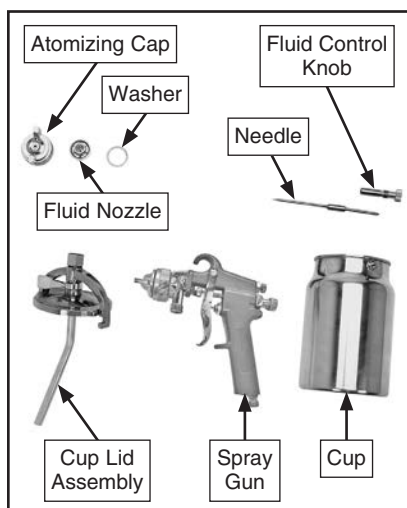

Figure 16. Spray gun disassembled for cleaning.
3. Remove cup and cup lid, then disassemble spray gun by unscrewing fluid control knob and removing spring and needle (see **Figure 16**).
4. Unscrew atomizing cap with your fingers, then remove fluid nozzle with a wrench. The fully disassembled gun should look like **Figure 16**.